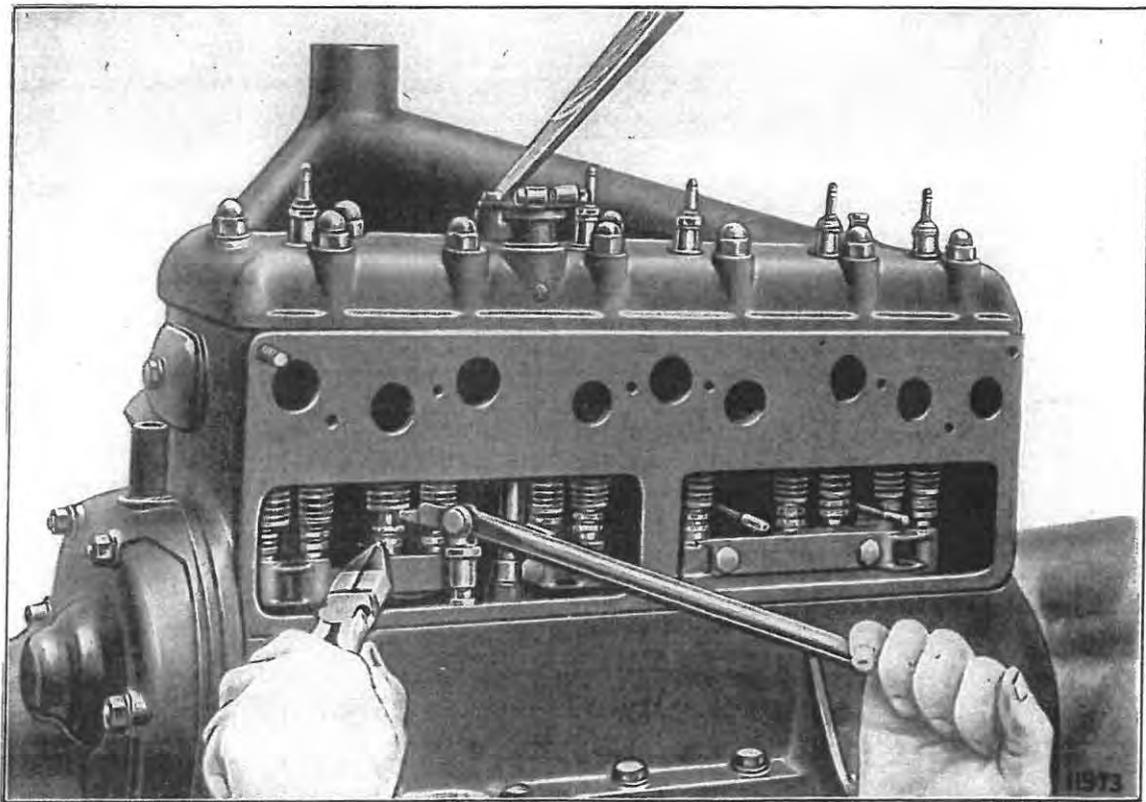

Fig. 12. — Remplacement d'un ressort de soupape.
12. — REMPLACEMENT D'UN RESSORT DE SOUPAPE (FIG. 12)